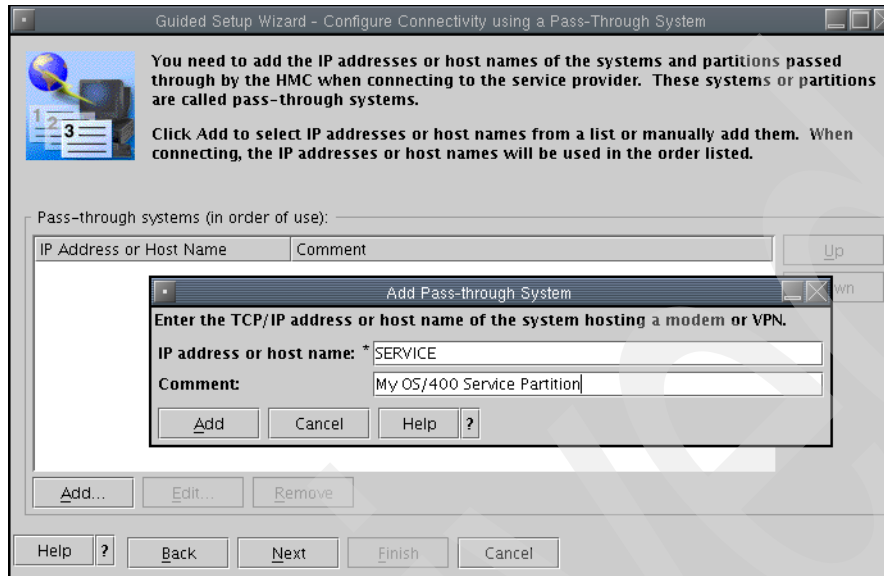

Figure 4-39 Guided Setup wizard - Pass-Through connectivity part 1
37. The Guided Setup Wizard - Configure Connectivity using a Pass-Through System panel is shown (Figure 4-39). The HMC can use another system in your network which already has a VPN or dial-up connection to IBM service and support. This system could be an i5/OS V5R3 partition or another HMC.